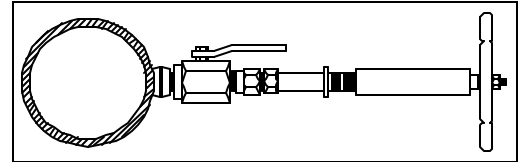

Figure 6. Hot Tap Drilling Machine
- Install an appropriate Hot Tap Drilling Machine (Figure 6). Place the access valve in the full open position, and drill a hole in the pipe (hole sizes per